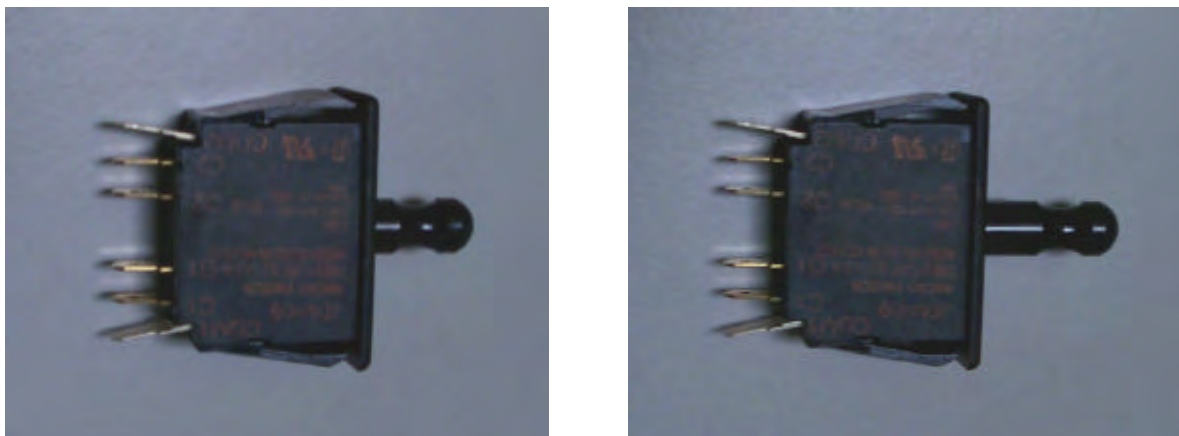

Figure 2-1: Panel Switches Showing Normal Operation (L) Override (R)
Customers may override this switch to allow furnace operation with the panels removed. Simply grasp the protruding switch and pull it out (See Figure 2-1 below (R)). This will activate the override switch setting.